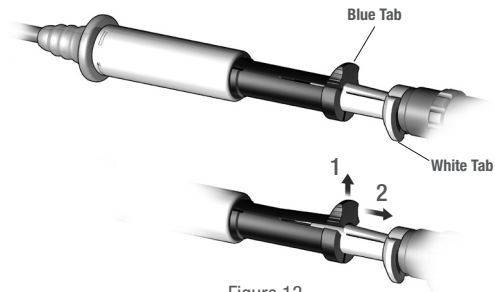

Figure 13
b. As shown in Figure 13, with the other hand, (1)grasp the **blue tab** and lift it up and over the step on the white base. (2)Slide the **blue tab** to the “**HOME**” position, until it is flush with the white base